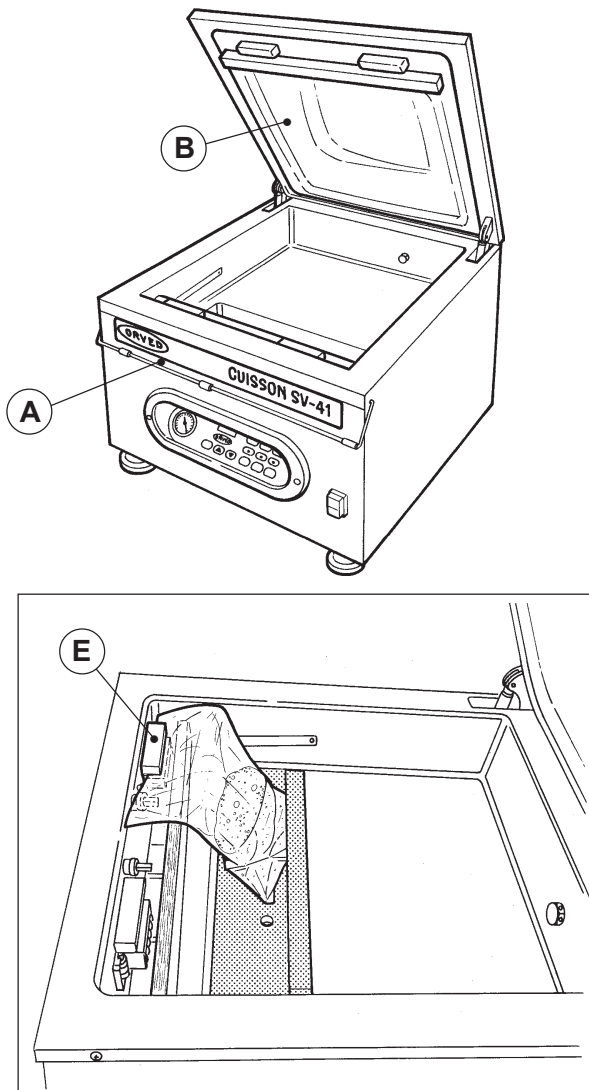

Fig. 1
- 1) Lower the lid securing device (**A** - Fig. 1): the dome's Plexiglas lid (**B**) opens.
The vertical compartment can be used for packaging up to 5 litres of liquid product at a time: in this case the bag used must be wide enough to fill the entire width of the compartment. The level of the liquid product must not exceed $\frac{3}{4}$ of the compartment's height (**H**). The remaining part of the bag must protrude from the compartment enough to ensure that the opening of the bag itself can be inserted in the dater (**E**). For smaller bags position the shelves (**C**) in such a way as to be able to insert the bag opening in the dater (**E** - Fig. 1).
It is possible to package one bag at a time (Fig. 1) or two bags simultaneously; or a single large-format bag (Fig. 2); in this case it is recommended to remove the dater which is not being used (F).